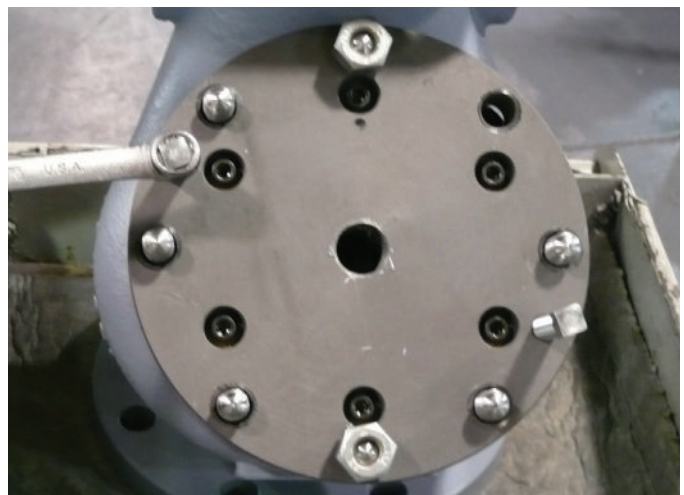

Figure 9-1 Alternately Tighten Jack Screw
5. Alternately tighten each jack screw (Item 5, Figure 12.1.1) one half turn until cylinder assembly is free of valve body. (Figure 9-1)
2. The entire cylinder assembly, including seat ring, may now be removed as a unit by utilizing the two jack screws (Item, 5, Section 12.1) provided in the cylinder head. (Figure 9-1).